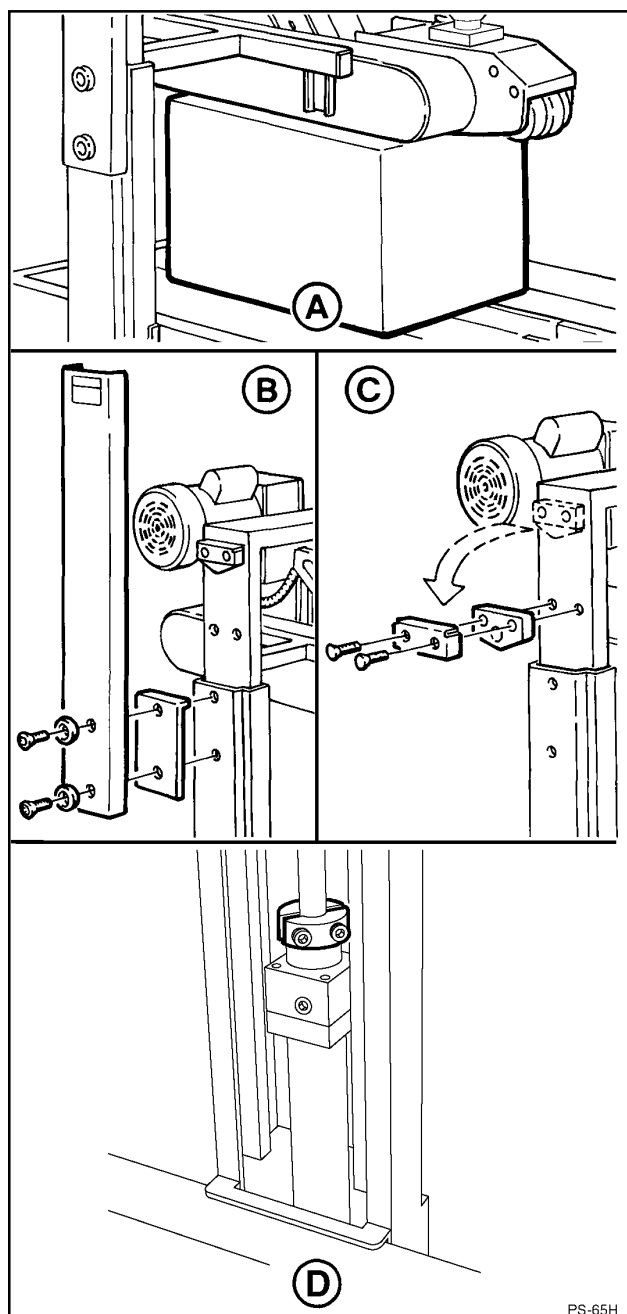

Figure 5-1 – Upper Frame Stop Bumpers
3. Remove and relocate the stop bumper assembly to lowest available mounting position on both sides of the inner column assembly. Figure 5-1-C. Be sure the stop bumpers are reassembled as shown and secure.
4. Install the stop bumper plates and column guards with the washers and screws as shown. Figure 5-1-B.